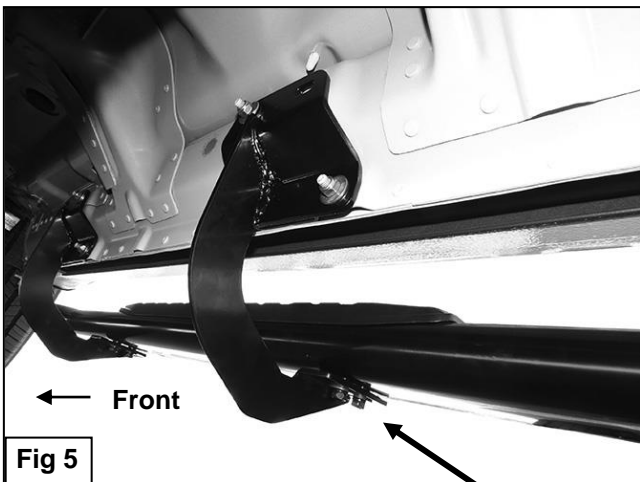

Fig 5
4. Repeat **Steps 1—3** to install the (2) remaining center and rear passenger side Brackets.
5. Select the passenger/right Sidebar. Carefully position the Sidebar onto the (3) Mounting Brackets. **IMPORTANT:** Do not slide, (front to back or rotate), the Sidebar on the Brackets or damage to the finish on the Sidebar may result. Attach the Sidebar to the Mounting Brackets with (6) 8mm x 25mm Combination Hex Bolts, **(Figure 5)**. Do not tighten hardware.